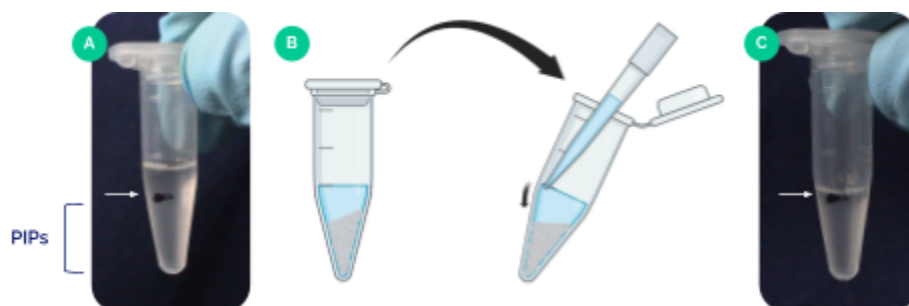

Figure 8. Packed PIPs in a 0.5 mL tube after centrifuging (A) and after volume normalization (B).
4. While the PIP pellet is still at an angle, quickly use a P200 pipette to remove the clear supernatant down to the 0.1 mL mark on the tube (Figure 8).